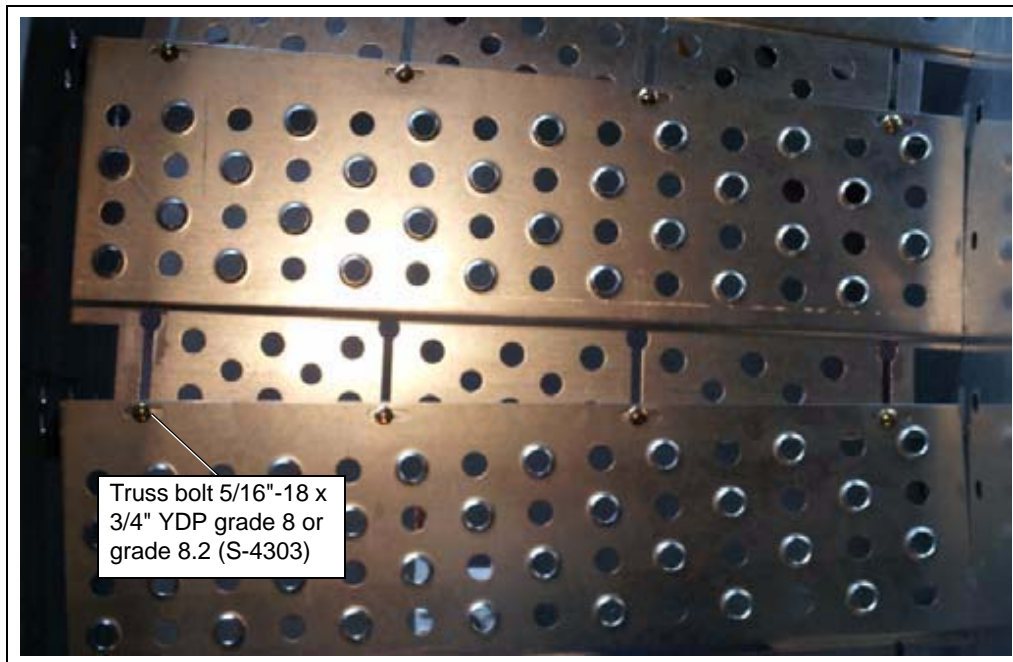

Figure 6Q
4. Each plank should be overlapped at the edges and bolted with 5/16"-18 x 3/4" YPD grade 8 or grade 8.2 bolts (S-4303) and 5/16"-18 x 3/4" YPD grade 2 nuts (S-3611). (See Figure 6Q.)